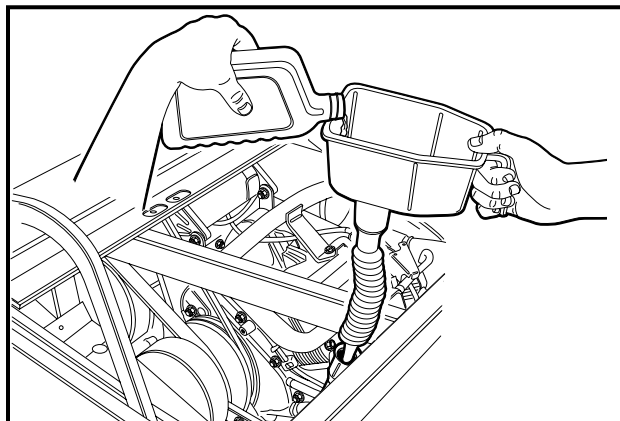
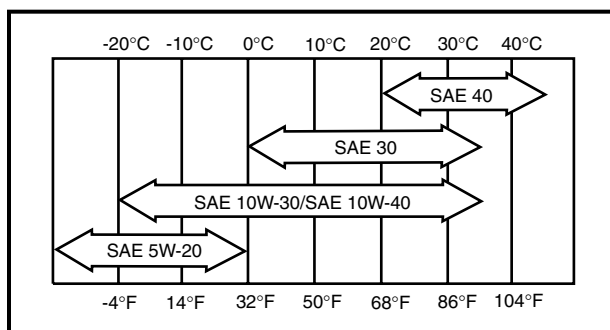

Figure 10-9 Add Engine Oil
Figure 10-10 Oil Viscosity Chart
14. Remove the dip stick and add engine oil into port. Use a funnel or pour spout to direct the oil (**Figure 10-9, Page 10-6**). With filter change, the engine requires 38 ounces (1.12 liters) of oil per change. Refer to oil viscosity guidelines for selection of oil grade (**Figure 10-10, Page 10-7**).
Choose the viscosity according to the temperature as shown (**Figure 10-10, Page 10-7**). See following NOTE.